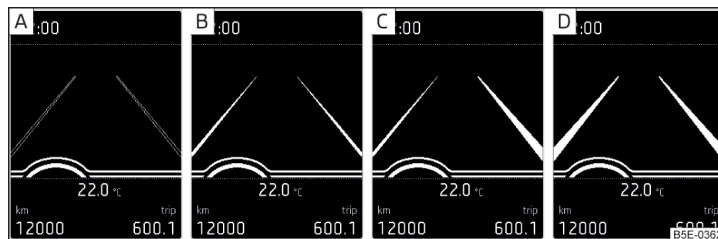
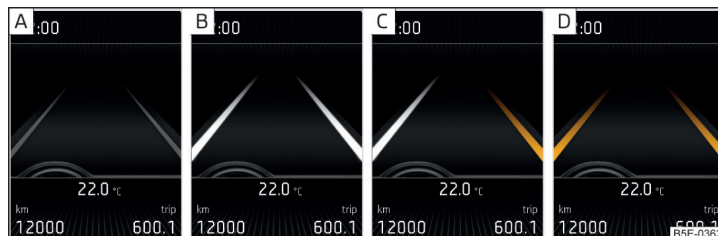

Fig. 212 Monochromatic display of the instrument cluster: Examples of system indications
Fig. 213 Colour display of the instrument cluster: Examples of system indications
**System Indicators» Fig. 212 and » Fig. 213**